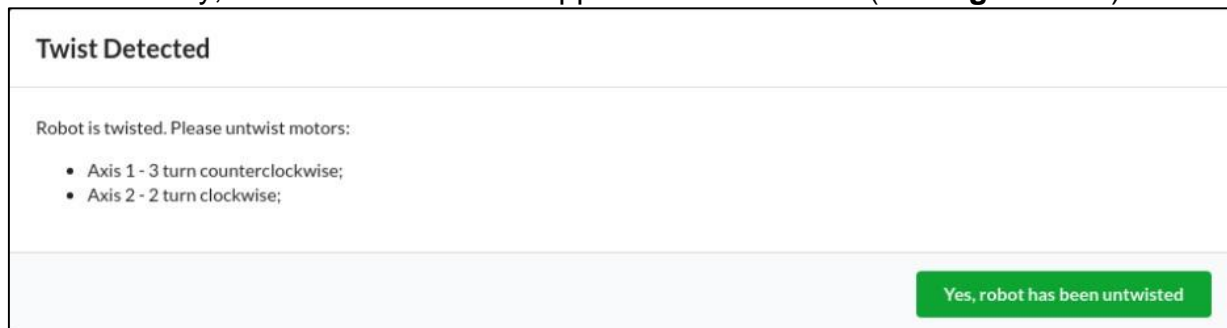

Figure 1-12: PULSE DESK twist detection alert
Simultaneously, a twist detection alert appears on the screen (see **Figure 1-12**).
2. In the twist detection alert (**Figure 1-12**), click **Yes, robot has been untwisted** to confirm you have untwisted the axis (axes) manually as instructed.